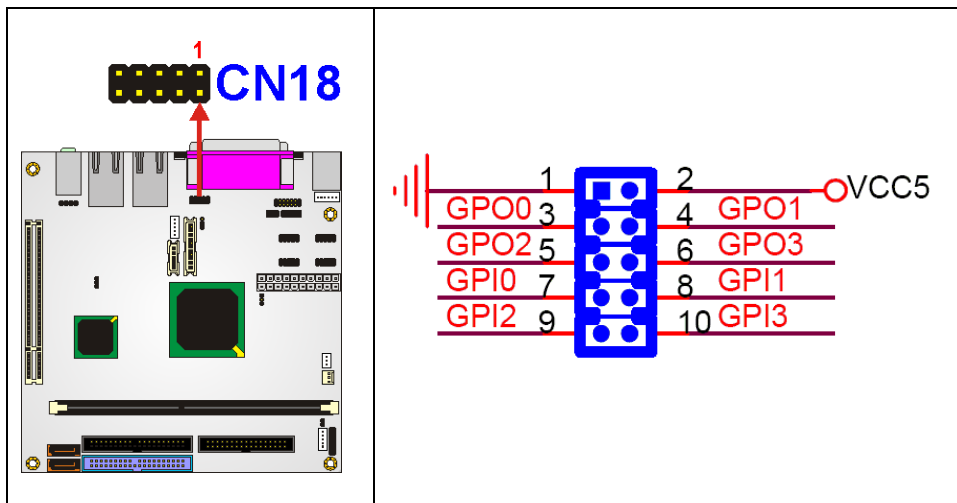

Figure 3-8: GPIO Connector Pinout Locations
- CN Location: See **Figure 3-8**